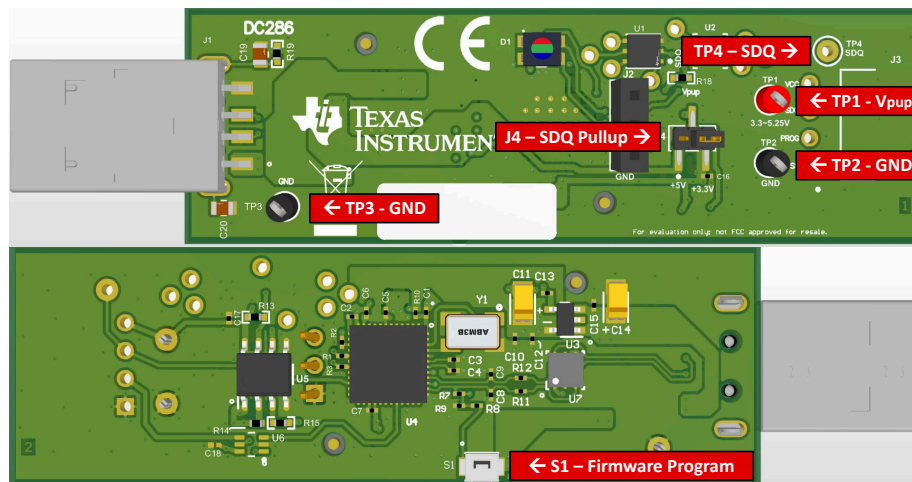

Figure 3-1. TMF0008EVM Test Points and Switches
No Single-Wire devices detected	No Single-Wire devices were detected on the bus. Check the USB connection and the presence of the board in device manager. Make sure jumper J4 is installed in a position that powers the SDQ bus (Figure 3-1).
Figure 3-1 shows jumper J4, responsible for control of the SDQ pullup voltage. Table 2-1 shows the configuration options of the jumper.
3. To enter BSL mode, press and hold the S1 switch, located on the back of the EVM (see Figure 3-1) while connecting the USB to the MCU